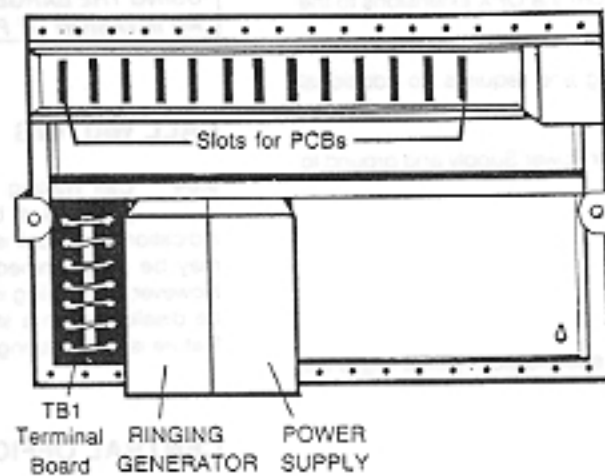
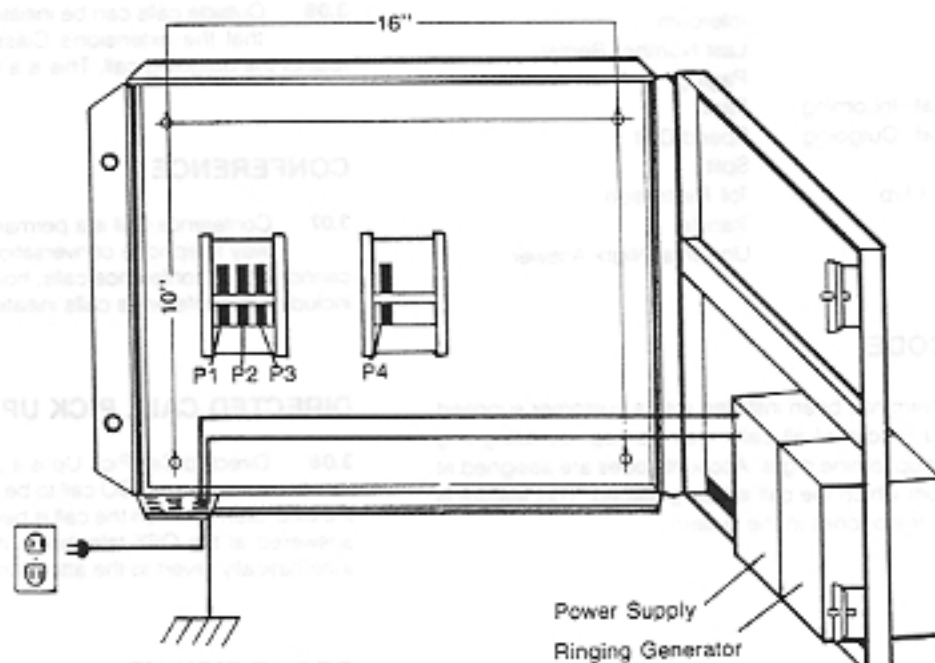

Figure 3 13 CARD KSU OUTSIDE VIEW
Figure 4 13 CARD KSU WITH HINGED SHELF OPENED
**1.05** The 13 Card KSU is designed for wall mounting. Eight of the 13 card positions can be used for B-OPX-A PCBs ( Figure 3 ). Remaining positions can be used to accommodate future tie-line applications. The 13 Card KSU is similar to the 6 Card KSU in that the Power Supply and Ringing Generator are mounted on the shelf ( Figure 4 ). The 13 Card KSU contains four 50-pin plugs located on the back of the unit and a terminal block located on the front.